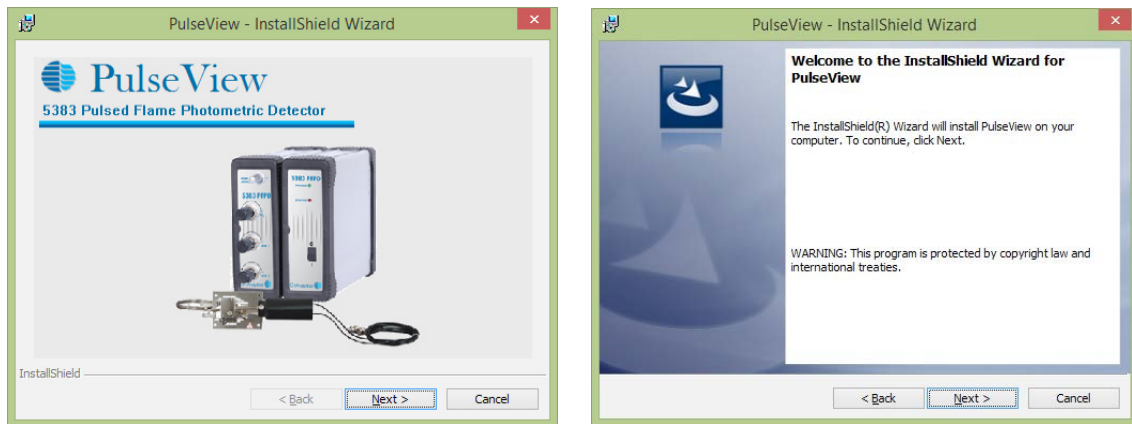

Figure 3.40. PulseView Software Installation
2. Click **Next** to begin the installation process (Figure 3.40).